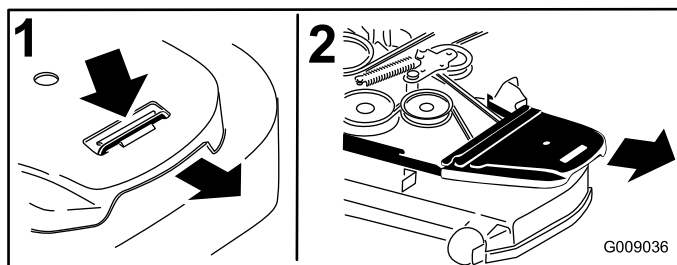

Figure 77
4. Remove the belt covers (Figure 77).